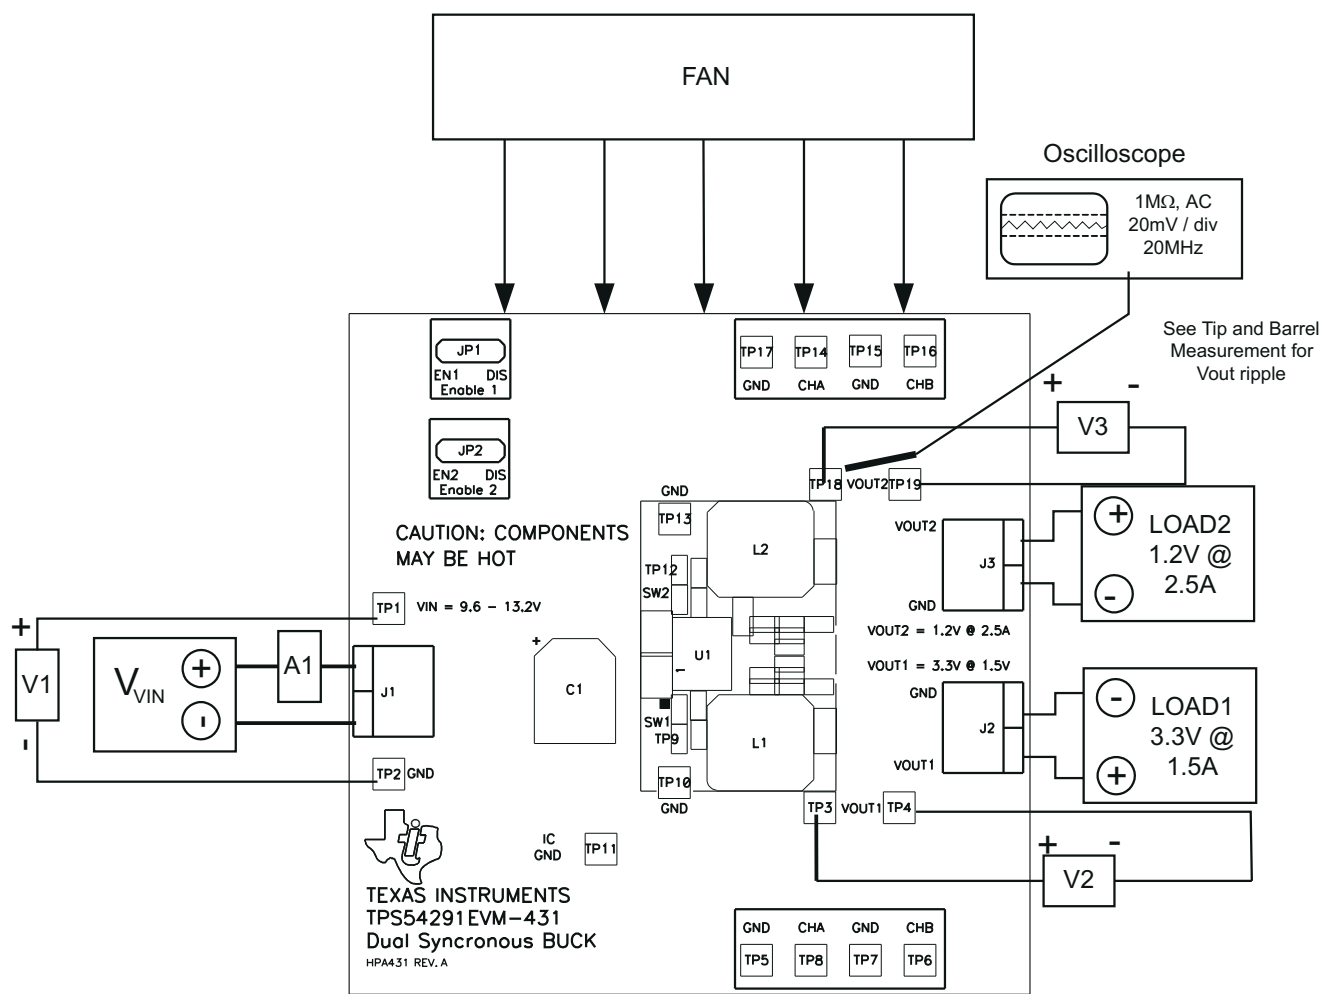

Figure 4-1. TPS54291EVM-431 Recommended Test Setup
Shown in Figure 4-1 is the basic recommended test setup to evaluate the TPS54291EVM-431. Note that although the return for J1, J2, and JP3 is the same system ground, the connections should remain separate as shown in Figure 4-1.
2. Prior to connecting the DC input source, V_{IN} , it is advisable to limit the source current from V_{IN} to 2.0-A maximum. Make sure V_{IN} is initially set to 0 V and connected as shown in Figure 4-1.
3. Connect the ammeter A1 (0-A to 5-A range) between V_{IN} and J1 as shown in Figure 4-1.
4. Connect voltmeter V1 to TP1 and TP2 as shown in Figure 4-1.
5. Connect LOAD1 to J2 as shown in Figure 4-1. Set LOAD1 to constant current mode to sink 0 Adc before V_{IN} is applied.
6. Connect voltmeter V2 across TP3 and TP4 as shown in Figure 4-1.
7. Connect LOAD2 to J3 as shown in Figure 4-1. Set LOAD2 to constant current mode to sink 0 Adc before V_{IN} is applied.
8. Connect voltmeter V3 across TP18 and TP19 as shown in Figure 4-1.